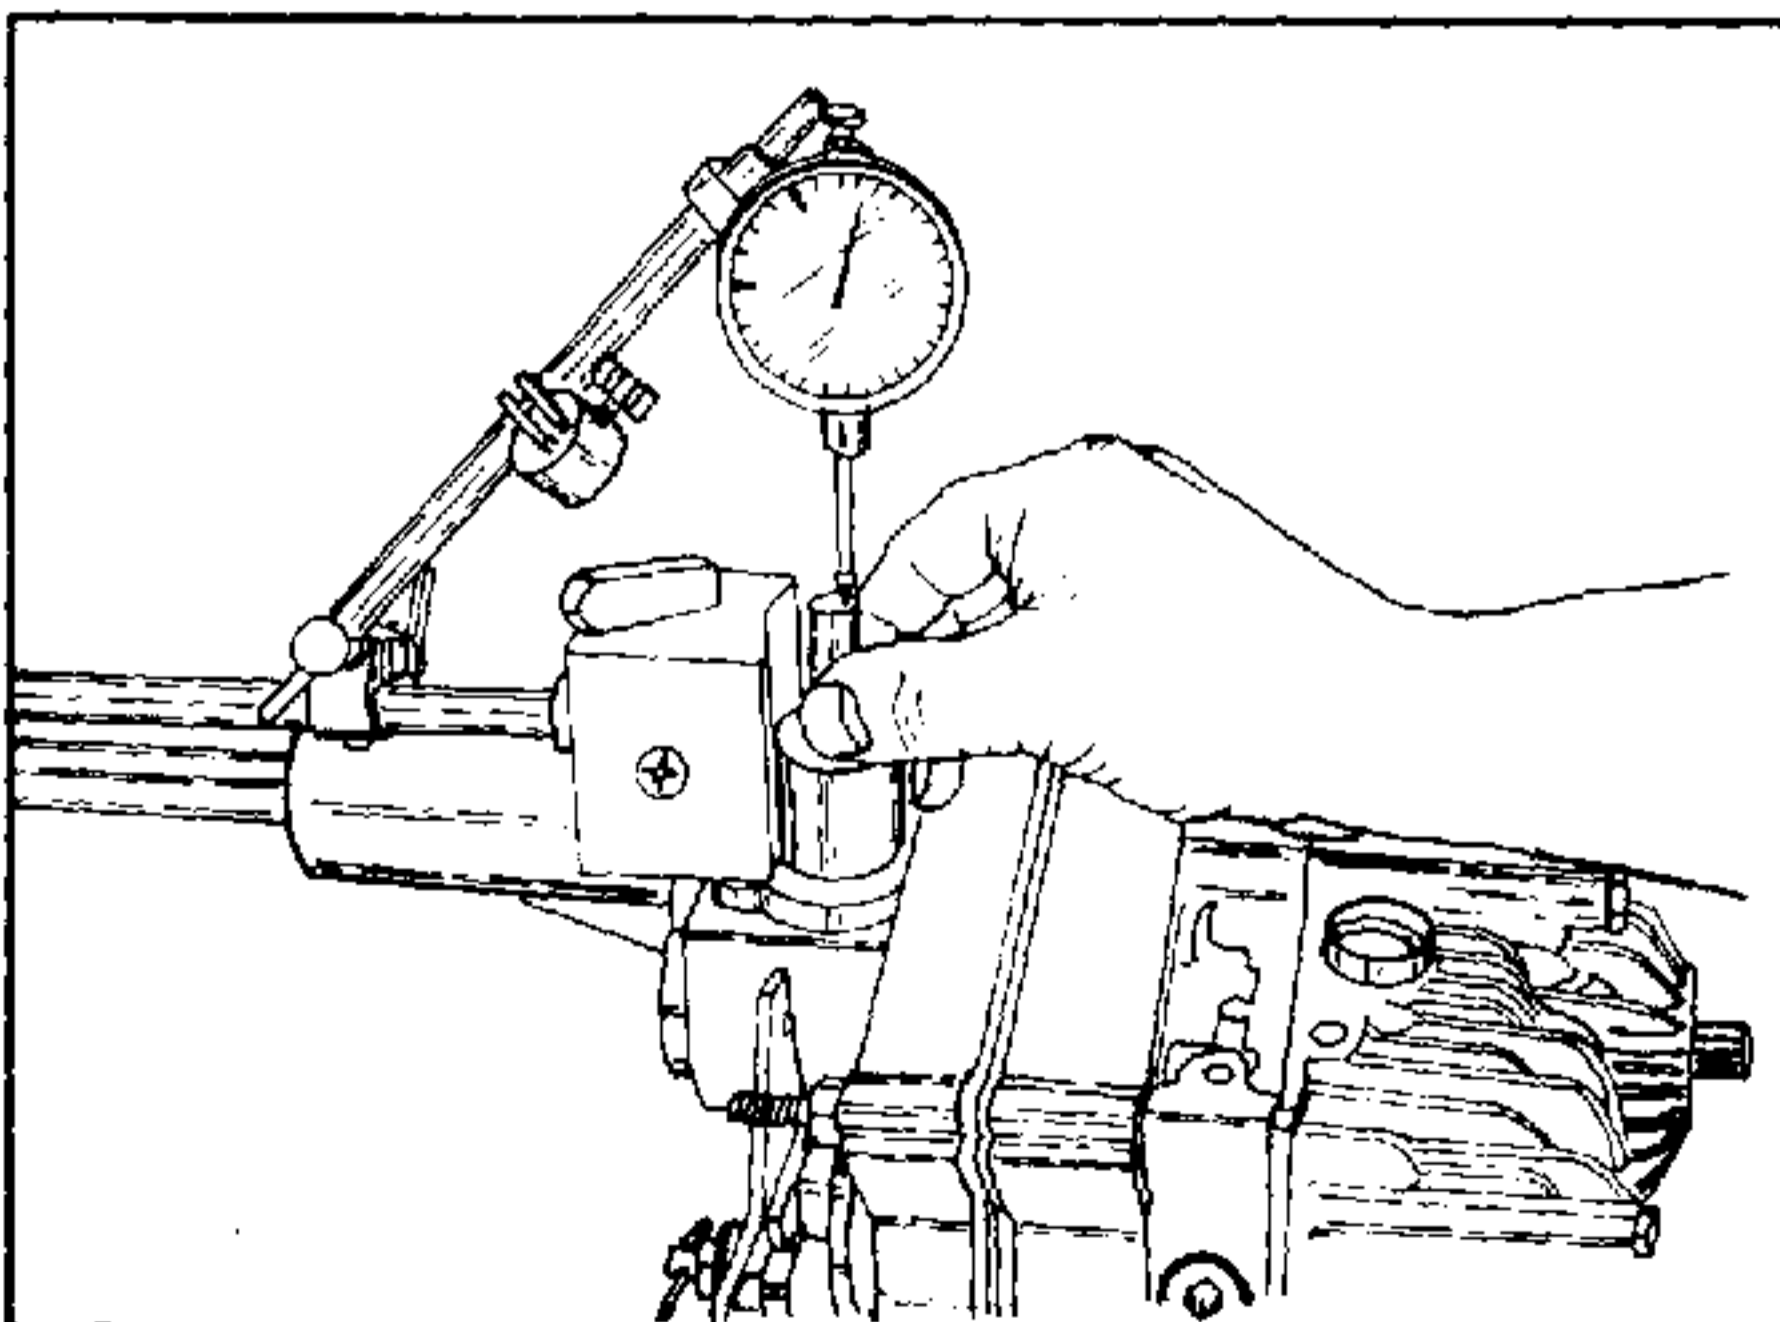

FIGURE 6.
- 3.74 Set up indicator to the top of the input shaft. Figure 6.